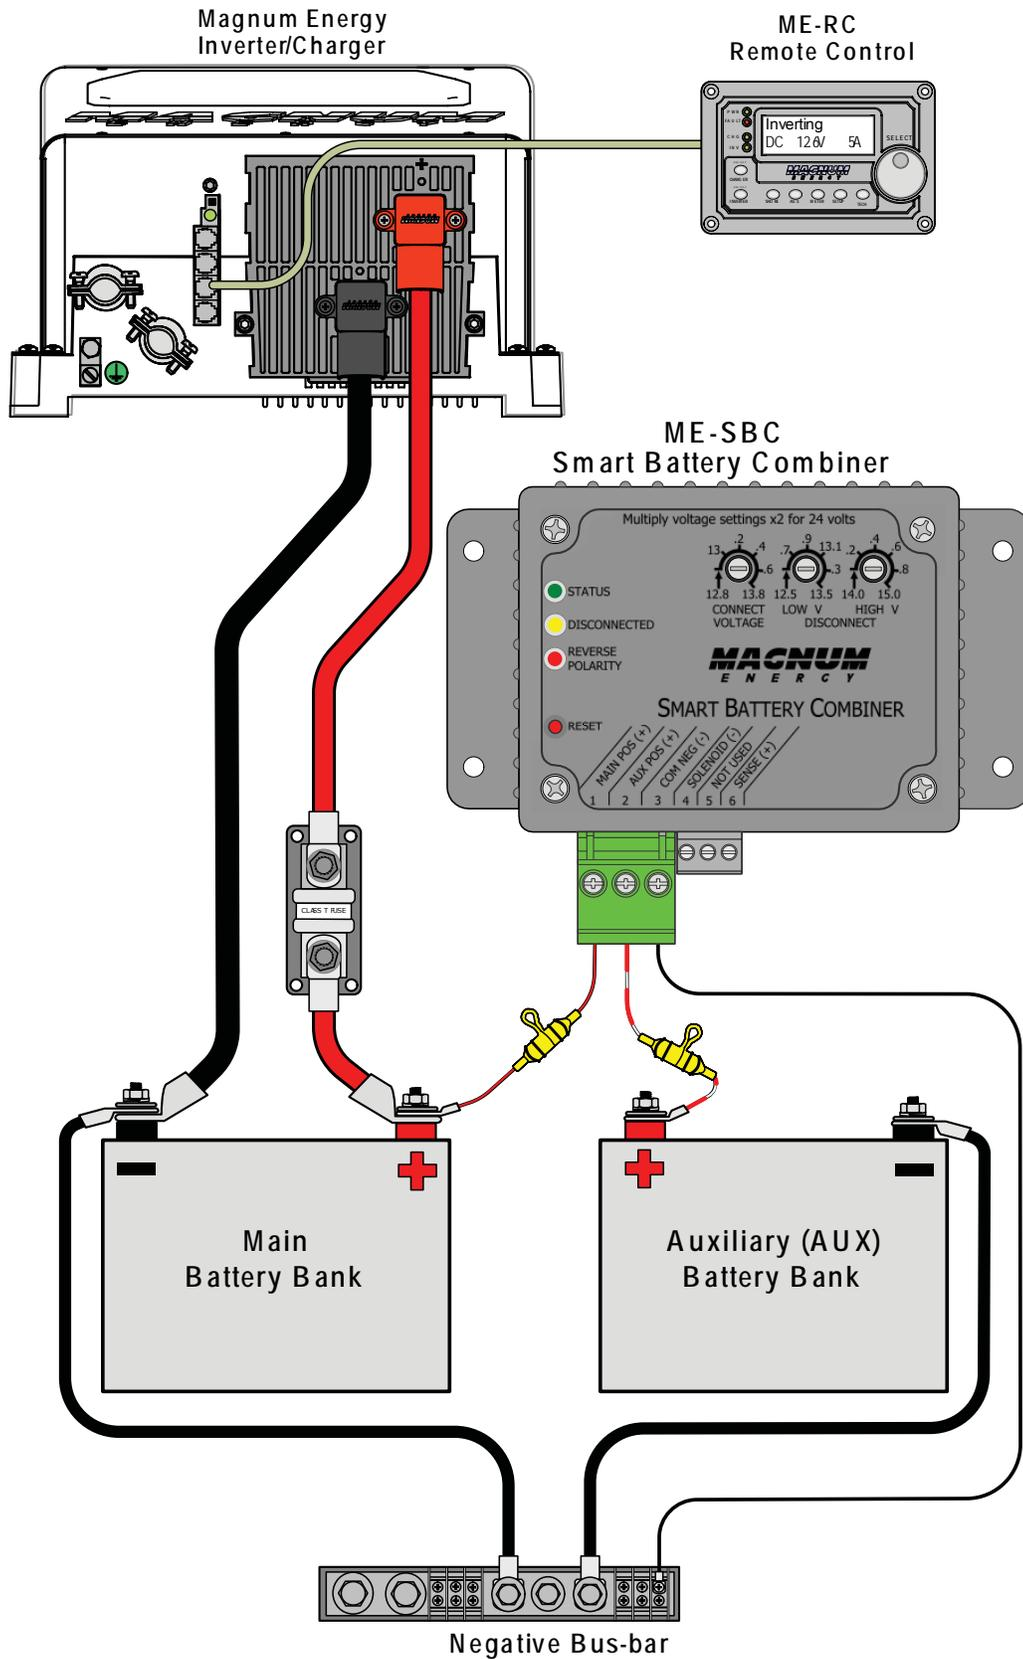

Figure 2-5, ME-SBC - 25 Amp Combiner Mode
**25 Amp Combiner** - This configuration is simple to install and use. The 3-wire connection system is similar to connection methods used by other battery combining products. One of the the advantages of this controller is the advanced combining options that are available to the installer. It is best to choose this method when designing systems where 25 amps or less are required. For this configuration see **Figure 2-5**.
The ME-SBC™ should now be mounted if not please refer to **section 2.2**. During installation please refer to **Figures 2-5** during the following steps: